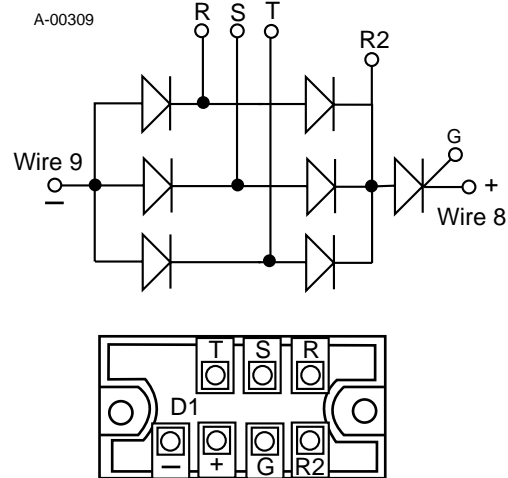

Figure 4-D Testing Input Diode (D1) Assembly (With Inrush Circuit)
3. The input diode (D1) assembly contains six standard diodes and a SCR used for the inrush circuit. The diodes are connected to form a three phase full wave circuit with three diodes connected to the negative terminal and three three connected to the the R-2 terminal. Test each diode in the forward (R-2 to R, S, T) and reverse (- to R, S, T) direction as shown in Figure 4-D. A properly functioning diode conducts in the forward direction (plus to negative) and blocks in the reverse direction (negative to plus).